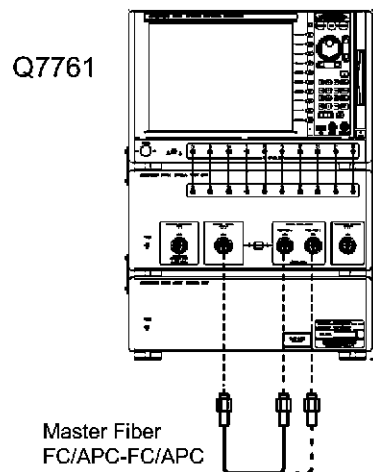

Figure 2-2 Connection for Dynamic Range (POWER Measurement Mode) Test
1. Connect equipment as shown in Figure 2-2. First, connect the “OPTICAL SIGNAL OUTPUT” with “TEST PORT 1”, using the master fiber.